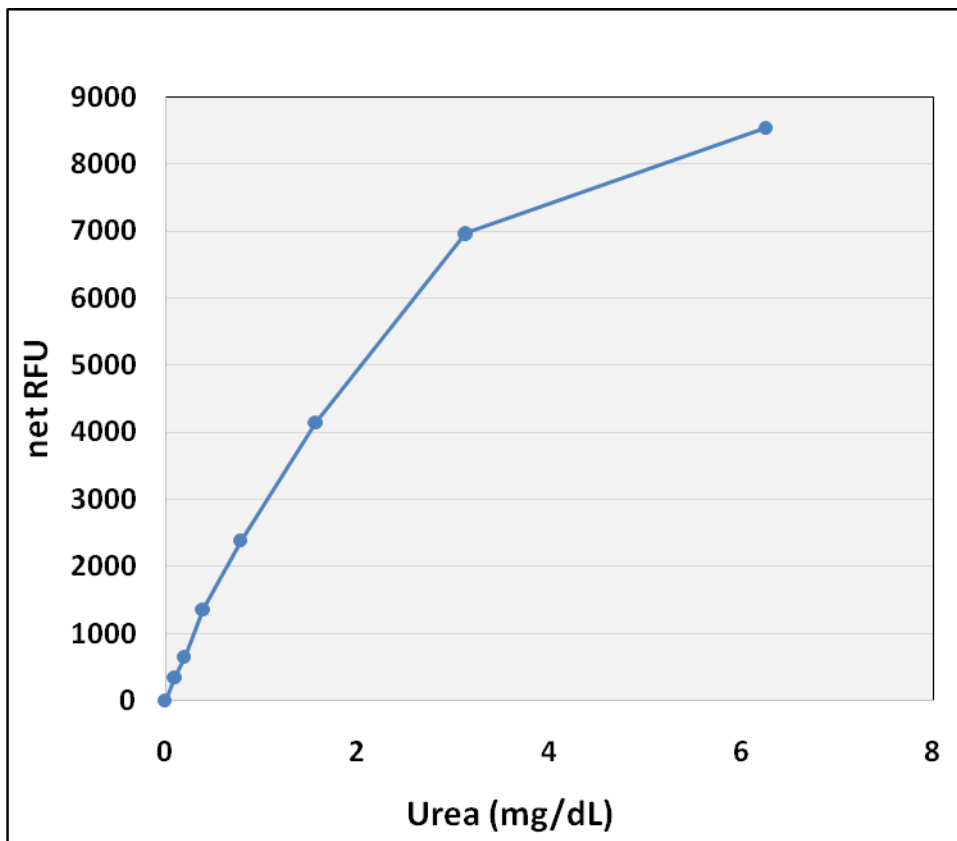

Figure 2: Urea Assay Standard Curve.
3. Graph the standard curve (see Figure 2).